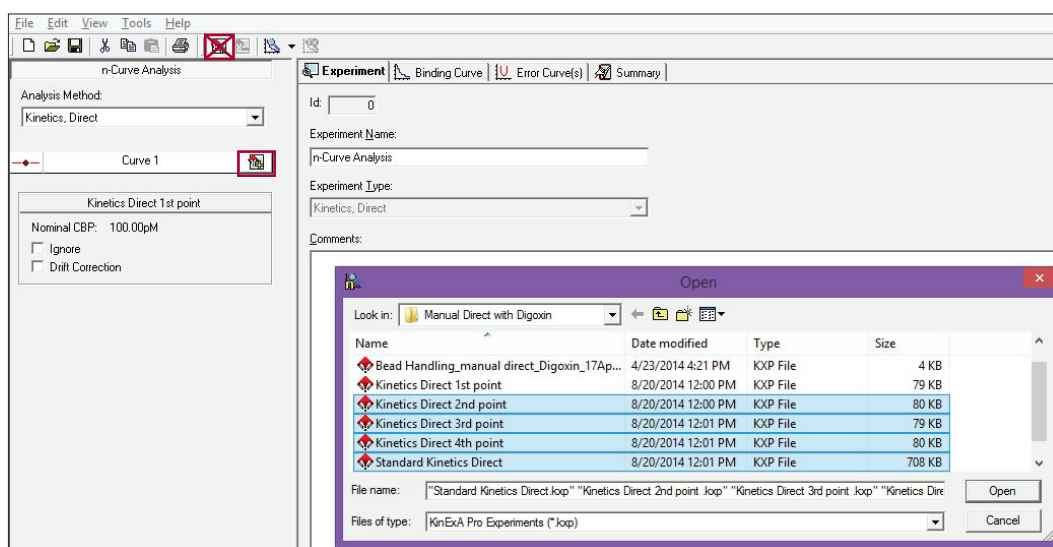

Figure 4B. Using the Add Experiment button associated with Curve 1 to add all additional points.
- Once the first point is added, use the **Add Experiment** button  associated with Curve 1. Add all additional points (**Figure 4B**).